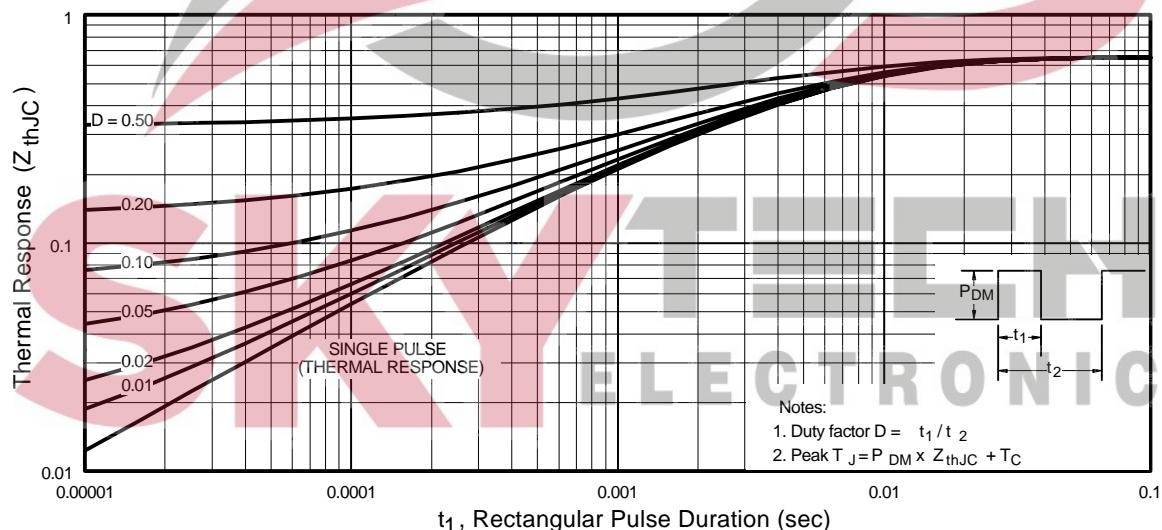

Fig 11. Maximum Effective Transient Thermal Impedance, Junction-to-Case
- ① Repetitive rating; pulse width limited by max. junction temperature. (See fig. 11)
- ② Starting $T_J = 25^\circ\text{C}$, $L = 370\mu\text{H}$